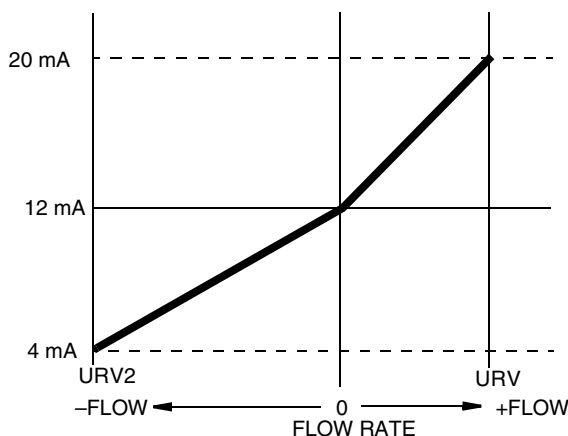

Figure 5. BiDirectional Split Range Milliampere Output
- ◆ **BiDirectional Split Range**, which specifies two-way flow with 4 to 12 mA for reverse flow (URV2 to 0) and 12 to 20 mA for forward flow (0 to URV). An optional Relay Output (ref: D6) can be used to indicate flow direction. 4 mA indicates reverse flow at the URV2 rate, 12 mA is zero flow, and 20 mA indicates positive flow at the URV rate (ref: A4). The relationship between the milliampere output and the flow rate in BiDirectional Split Range mode is illustrated in Figure 5.